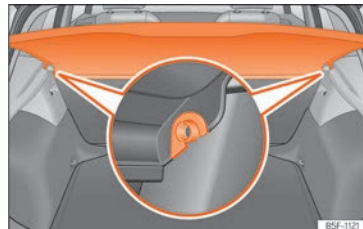

Fig. 138 In the luggage compartment: removing and fitting the shelf. »
- Remove the rear shelf from the side supports »» Fig. 138 by pulling it upwards and then take it out.
- Insert the cover horizontally so that the “recess” fits onto the axis of the supports »» Fig. 138 and press down until it engages.